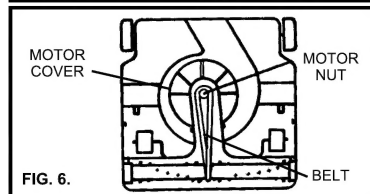

FIG. 6.
2. Remove bar by pressing on side until it is released and remove bottom plate (Fig. 6).